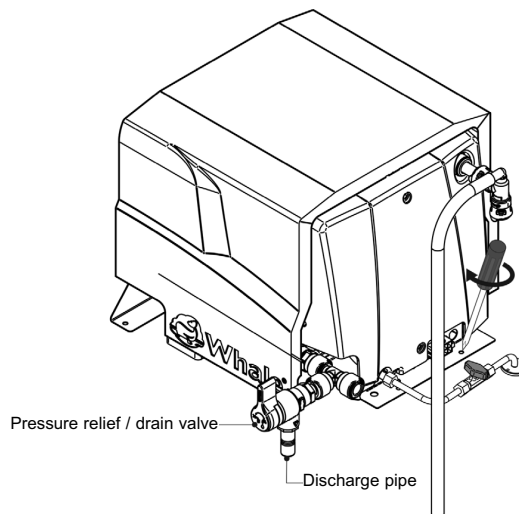

Fig. 16 Connect to the gas supply
Step 8 Connect to gas supply (see Fig. 16)